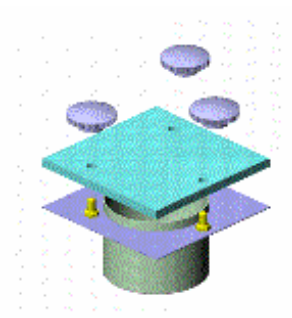

**Fig. 9
- c. Remove the blades from the dasher by first rotating blade upward and then unsnapping one end from the support rod (see Fig. 9).